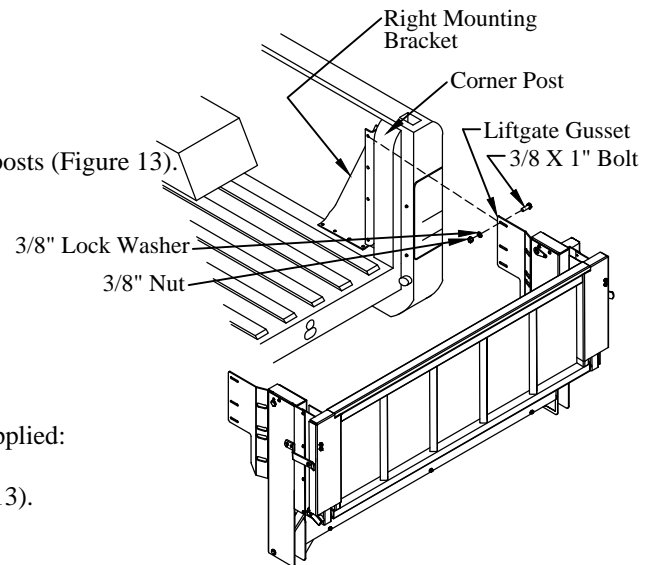

Figure 13: Mounting bracket and liftgate.
2. **Position** the mounting brackets into the truck bed in front of the corner posts (Figure 13).
- (3) 3/8"x1" hex head bolts on the bracket-side (Figure 13).
- (3) 3/8" lock washers, and (3) 3/8" nuts on the gusset-side (Figure 13).
8. **Drill** two (2) 3/8" holes into the truck bed floor using two holes in the bracket as a guide.